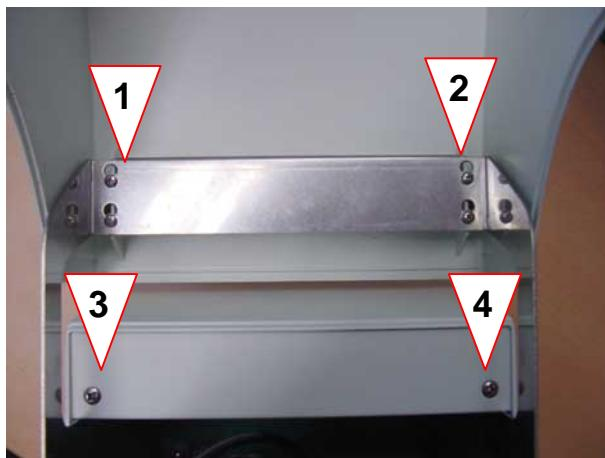

Fig. 4-3 AutoQC cover opened
9. Open the four cover mounting screws (on the lever) and remove the cover (see Fig. 4-3, 1 and 2).
10. Remove the two screws at the front of the AutoQC top cover (see Fig. 4-3, 3 and 4)